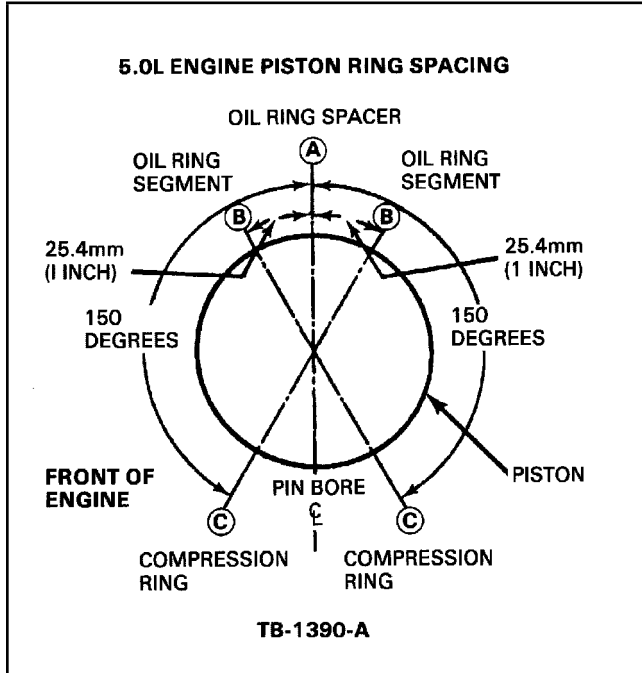

Figure 2 - Article 90-1-9
10. Install new piston ring sets on each piston. Make sure the ring gaps are properly spaced, Figure 2.